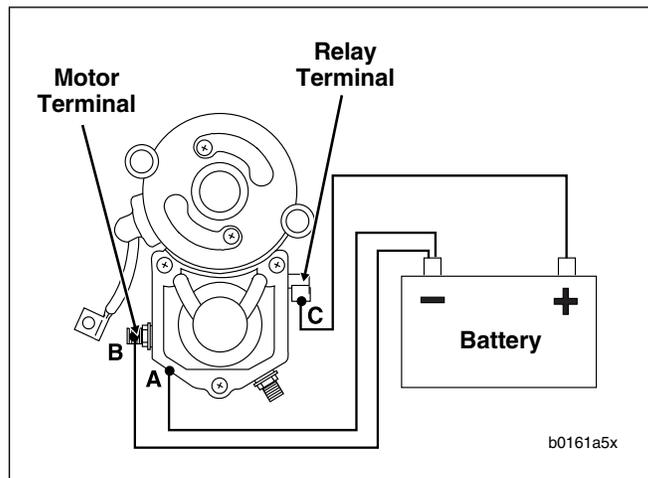

Figure 1-5. Test 1: Pull-In Test
Do not disassemble solenoid. Before testing, disconnect field wire from motor terminal as shown in Figure 1-5.
- See Figure 1-5. Using a 12 volt battery, connect three separate test leads as follows: